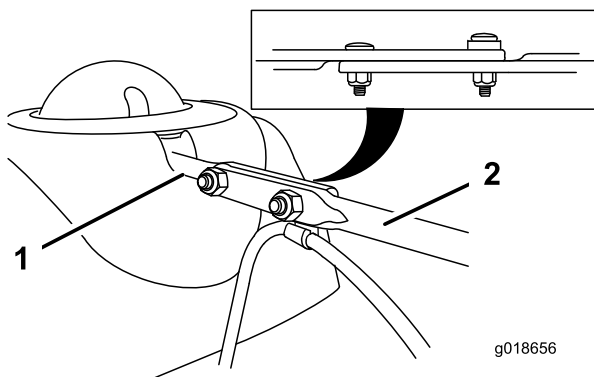

Figure 15
3. Align the flattened back end of the long chute-control rod with the flattened front end of the short rod that extends from the control panel so that they nest together (Figure 15).